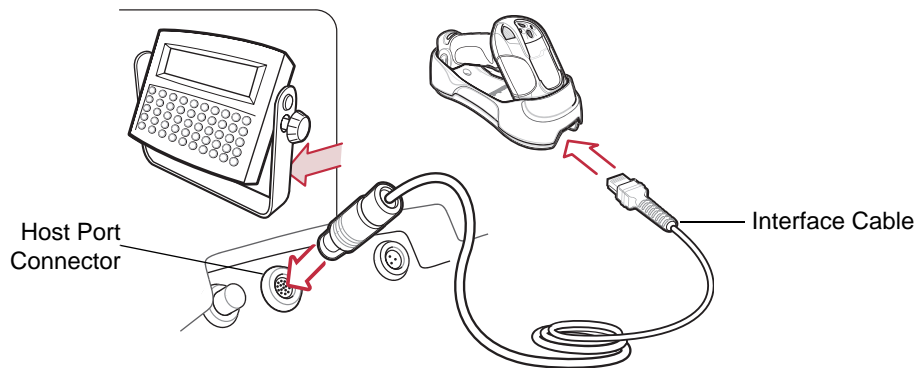

Figure 10-1 Scanner Emulation Connection
- ✓ **NOTE** Interface cables vary depending on configuration. The connectors illustrated in Figure 10-1 are examples only. The connectors may be different from those illustrated, but the steps to connect the scanner cradle remain the same.